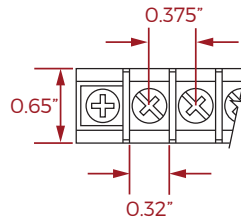

Figure 6. Output Barrier Strip Detail
Each terminal is a no. 6-32 screw and is rated at 30 amperes. Wire sizes from no. 12 AWG to no. 22 AWG may be used for connections. Figure 6 below shows detailed spacing of the terminals.
- 11.2 Connections.** Input connections should be made with one- or two-terminal crimp type lugs using copper wire size from no. 1 to 8 AWG, depending on current and wire loop distance. See Sections 9.2 and 9.3. Output connections are made to the barrier terminal strips. See Section 9.4 and Figure 6.